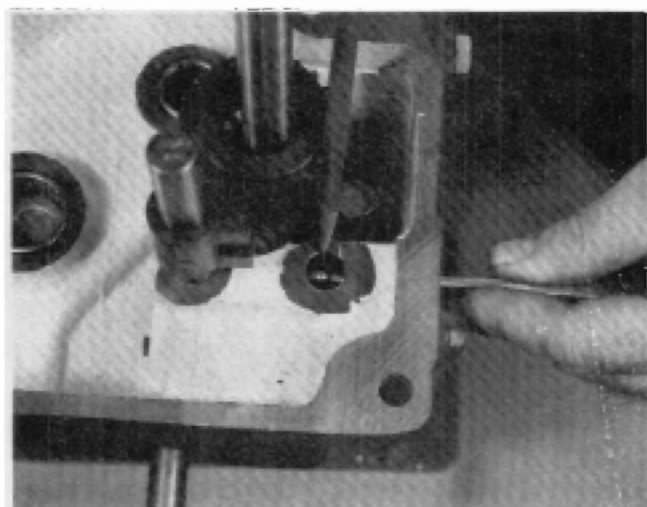
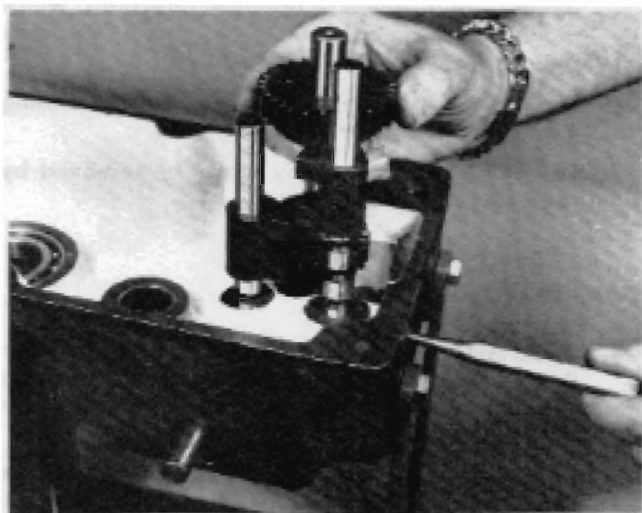

FIGURE 14
FIGURE 15
12. Install the 2nd stop ball and using a punch, push the ball in against the spring. Move the installed shift rail into the neutral position and continue to push on the punch (Figure 14) until the ball is flush with the shift rail bore. At the same time insert the low and reverse shift rail and fork assembly together with the low and reverse sliding gear, (Figure 15) removing the punch as the shift rail passes the ball. See de-